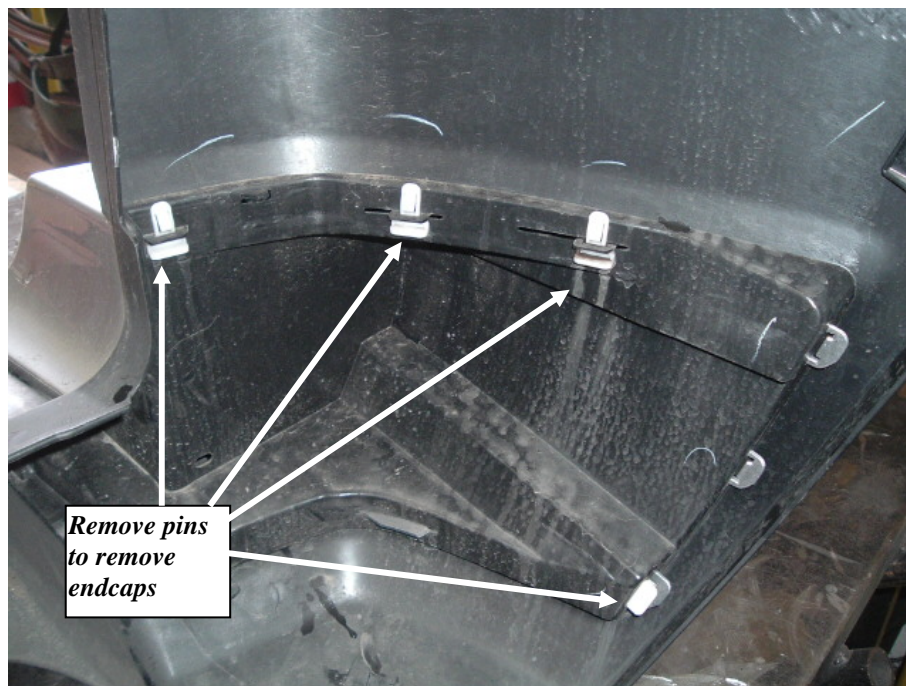

Figure 7 Remove pins to remove endcaps
6. Remove the silver end caps from the factory bumper by removing the retainers from inside the bumper. See **Figure 7**